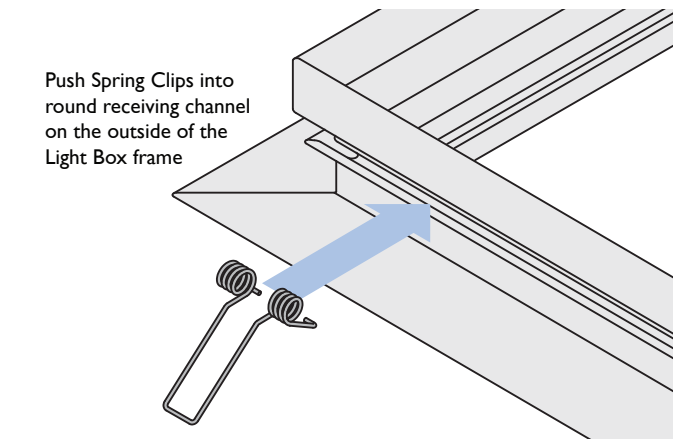

Figure 2.0
Cooldek Light Boxes are suspended within the Cooldek using four (4) spring-clips. The spring-clips must be inserted into the round external channel of the Light Box frame on the short sides (400mm) (Figure 2.0).